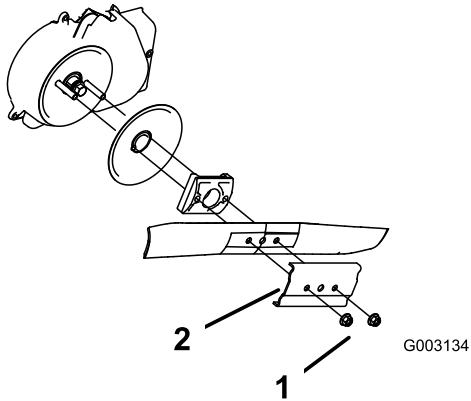

Figure 40
- Remove the 2 blade nuts and the stiffener (Figure 40).
- Remove the blade (Figure 40).
- Install the new blade (Figure 40).